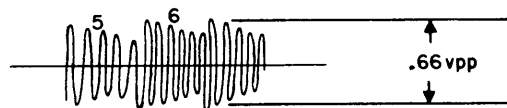

Figure 5-4. Carrier Generator Alignment Waveform (11 cycles/envelope pattern)
(1) Adjust potentiometer R27 fully ccw; set EXCITER switch ON and set MODE switch to AM position. Connect oscilloscope to TP1. Voltage shall be 10.0 volts peak-to-peak at 1.0 MHz.
(2) Connect oscilloscope to TP3 and adjust transformer T1 for maximum level at 250 kHz (approximately 900 mv peak-to-peak).
(3) Connect oscilloscope to TP4 and adjust transformer T2 for maximum level. (approximately 1.4 volts peak-to-peak.)
(4) Adjust potentiometer R51 fully clockwise. Connect oscilloscope to TP6 and adjust transformer T3 for maximum level of approximately .66 volt peak-to-peak at 2.75 MHz (figure 5-4).